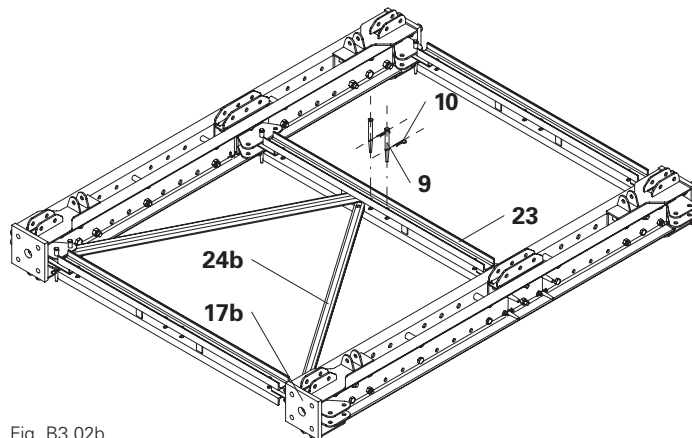

Fig. B3.02b
4. Swivel second diagonal strut VST 200/150 (**24b**)\* into the horizontal ledger VST 200 (**23**). (Fig. B3.02b)